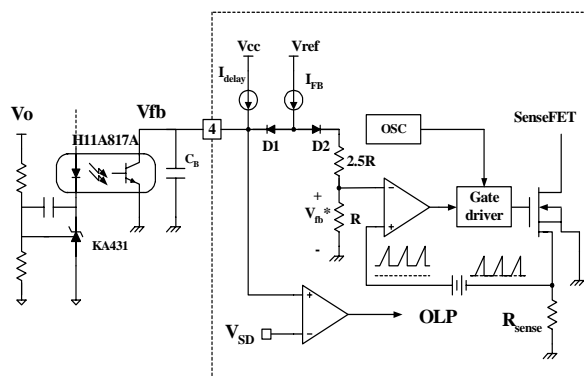

Figure 5. Pulse width modulation (PWM) circuit
**2. Feedback Control :** FSDM0565R employs current mode control, as shown in figure 5. An opto-coupler (such as the H11A817A) and shunt regulator (such as the KA431) are typically used to implement the feedback network. Comparing the feedback voltage with the voltage across the Rsense resistor plus an offset voltage makes it possible to control the switching duty cycle. When the reference pin voltage of the KA431 exceeds the internal reference voltage of 2.5V, the H11A817A LED current increases, thus pulling down the feedback voltage and reducing the duty cycle. This event typically happens when the input voltage is increased or the output load is decreased.
**2.1 Pulse-by-pulse current limit:** Because current mode control is employed, the peak current through the Sense FET is limited by the inverting input of PWM comparator (Vfb\*) as shown in figure 5. Assuming that the 0.9mA current source flows only through the internal resistor (2.5R + R = 2.8 kΩ), the cathode voltage of diode D2 is about 2.5V. Since D1 is blocked when the feedback voltage (Vfb) exceeds 2.5V, the maximum voltage of the cathode of D2 is clamped at this voltage, thus clamping Vfb\*. Therefore, the peak value of the current through the Sense FET is limited.